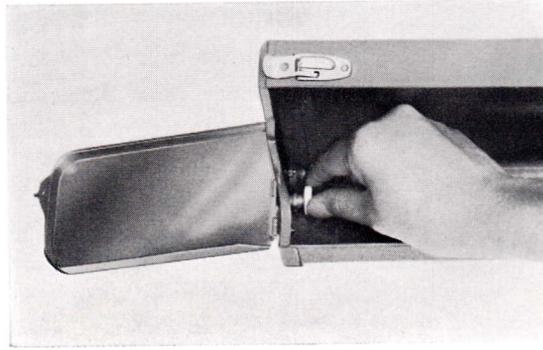

Fig. 9
- a. Unscrew the automatic yarn feeder rod from the upper case. (See Fig. 9)